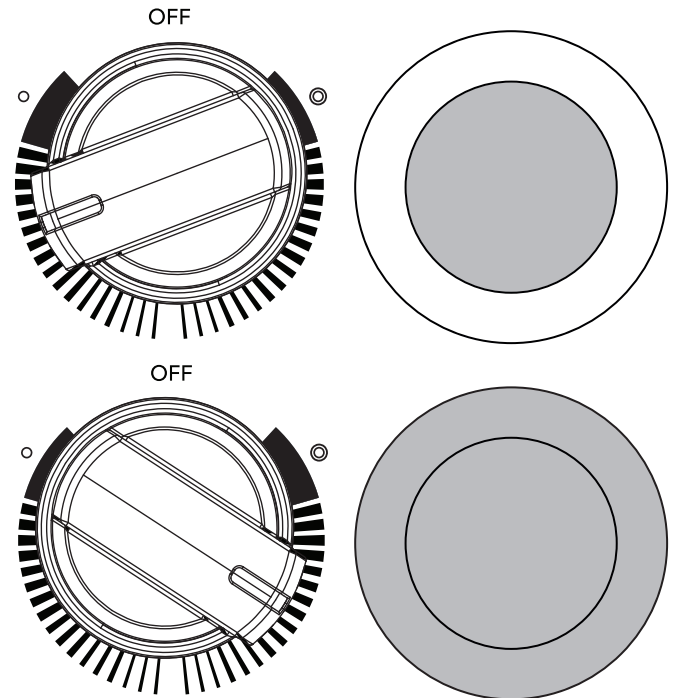

Figure 10: Dual Element knob settings
2. Push in and turn the surface control knob clockwise to begin heating both the inner and outer elements. If only the inner element is needed for smaller cookware, push in and turn the knob counter-clockwise (see Figure 10).